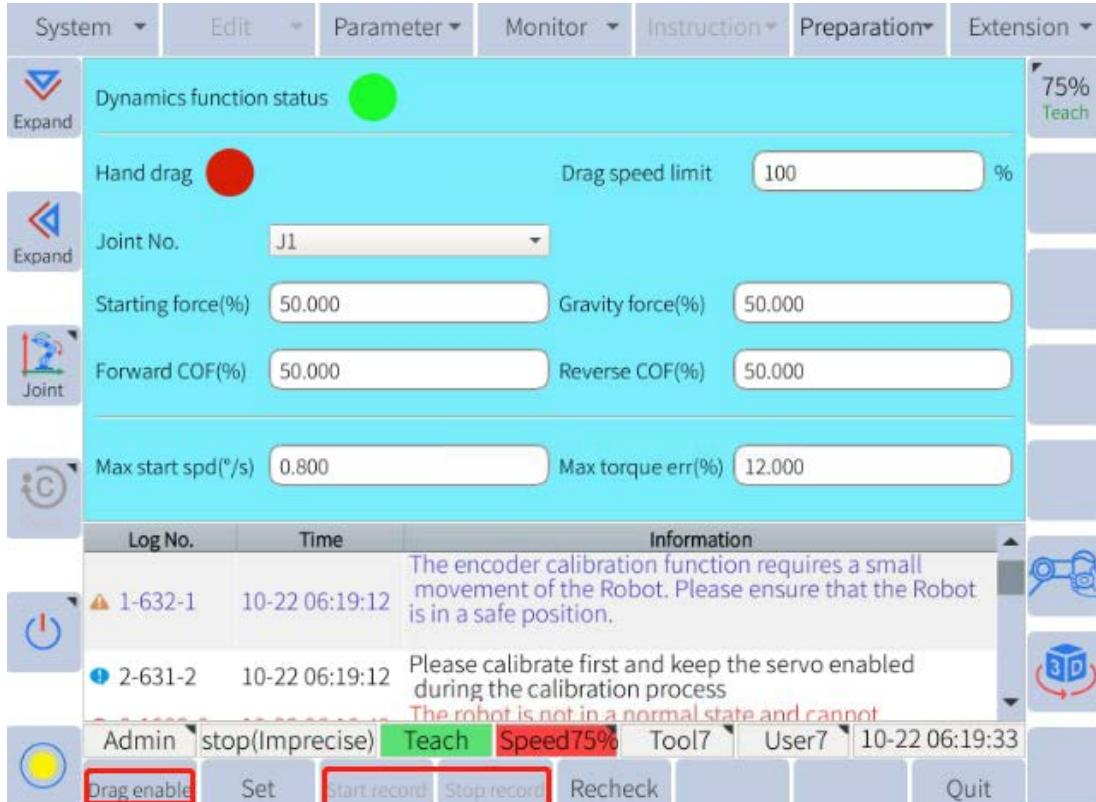

Figure 6-80 : Drag and teach
1. Click **Preparation -> Hand drag** to enter the drag teaching interface, as shown in **Figure 6-80**